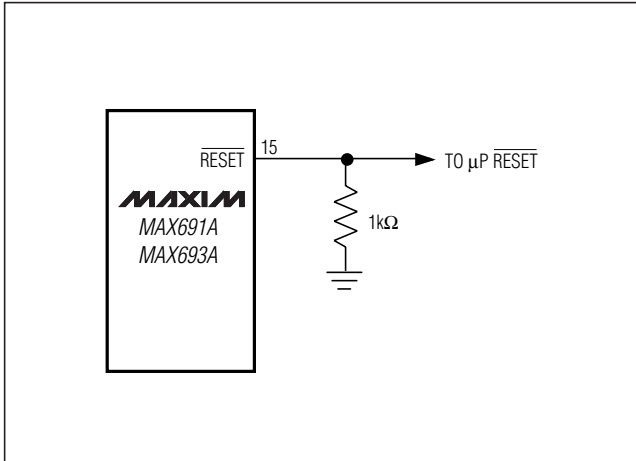

Figure 1. Adding an external pull-down resistor ensures  $\overline{\text{RESET}}$  is valid with  $V_{\text{CC}}$  down to GND.
guaranteed to be valid down to VCC = 1V, and an external 10kΩ pulldown resistor on RESET insures that it will be valid with VCC down to GND (Figure 1). As VCC goes below 1V, the gate drive to the RESET output switch reduces accordingly, increasing the RDS(ON) and the saturation voltage. The 10kΩ pulldown resistor insures the parallel combination of switch plus resistor is around 10kΩ and the output saturation voltage is below 0.4V while sinking 40μA. When using a 10kΩ external pulldown resistor, the high state for RESET output with VCC = 4.75V will be 4.5V typical. For battery voltages ≥ 2V connected to VBATT, RESET and RESET remain valid for VCC from 0V to 5.5V.